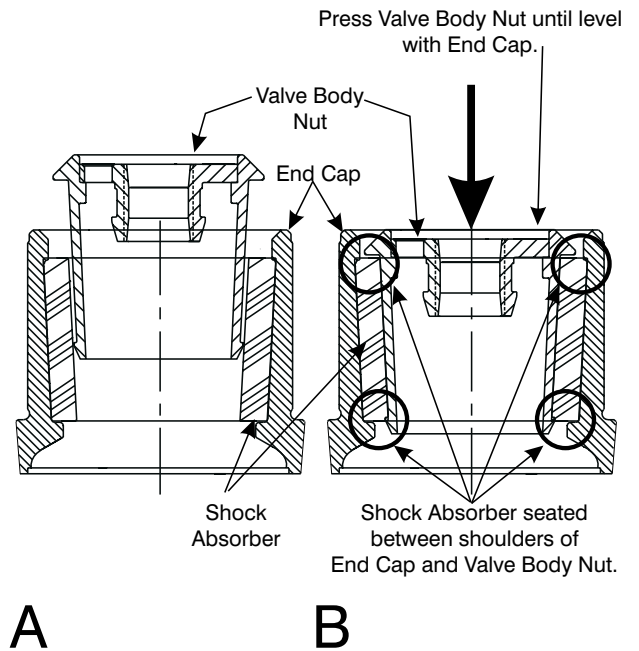

Figure 9-4. Press the Valve Body Nut into the Shock Absorber
13. Center the Valve Body Nut (12) above the threaded end of the End Cap (10). Fit the Valve Body Nut (12) into the Shock Absorber (11) as far as it will slide freely. Refer to Figure 9-4-A.
14. Center the press plunger over the Valve Body Nut (12).
15. Press the Valve Body Nut (12) into the Shock Absorber (11) until the shoulder of the Valve Body Nut seats against the Shock Absorber as shown in Figure 9-4-B.
17. At both ends of the End Cap (10), inspect how the Shock Absorber (11) seats between the shoulders of the End Cap and the shoulders of the Valve Body Nut (12).
- b. Refer to the circled areas of Figure 9-4-B.